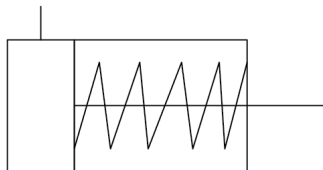

Figure 3.28
7. The symbol in *Figure 3.28* represents _____.